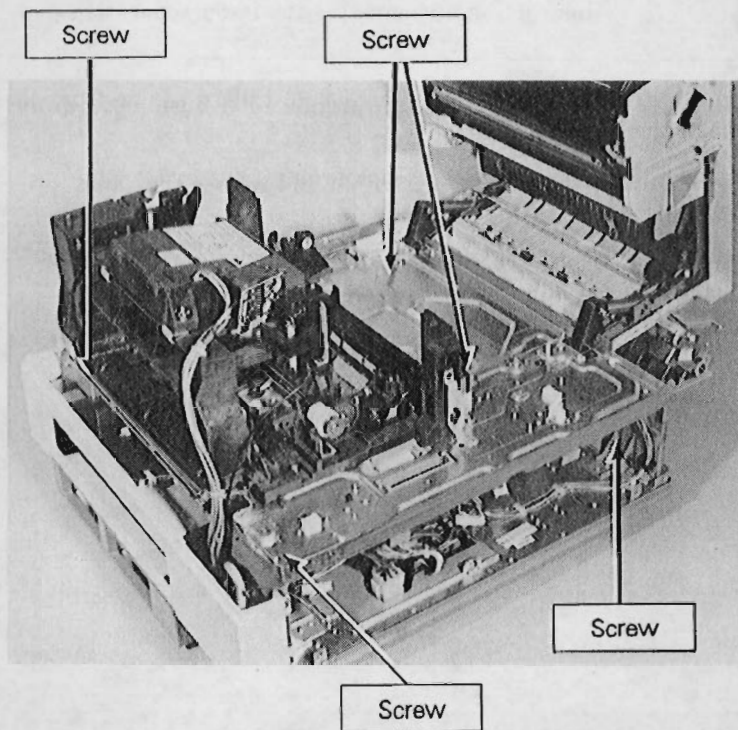

Figure 6-43. Lower Printer Assembly Retaining Screws
3. Remove the Fusing Assembly, Front Support Bracket and the Registration Assembly. The (5) screws that retain the lower printer assembly are now exposed as shown in Figure 6-43.
6. Remove the (5) screws that hold the upper and lower sections together and lift the top section straight up off the lower section.